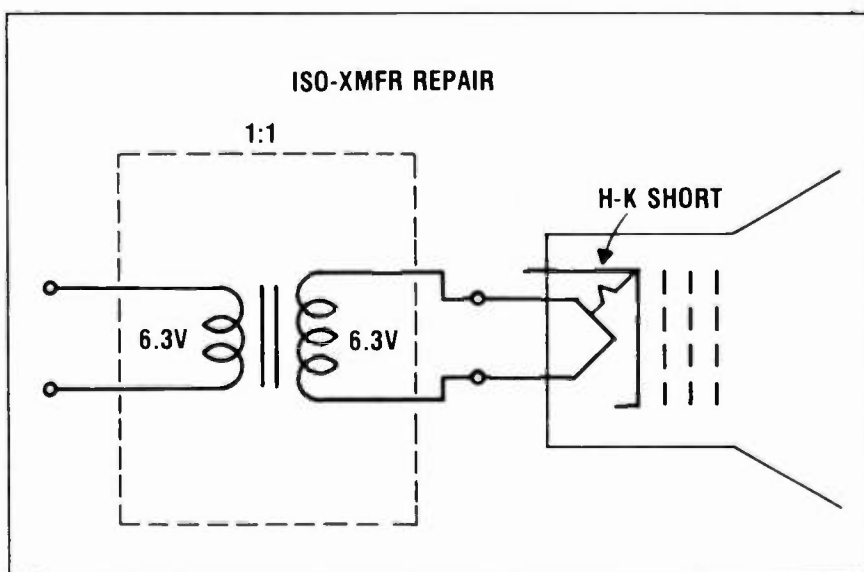

Fig. 3—Illustration of the use of an isolation transformer to 'cure' heater-to-cathode short in CRT.
- **Heater-To-Cathode Shorts**—The effect of this defect (Fig. 3) frequently can be eliminated by installation of an isolation transformer, which electrically isolates the heater, and therefore the cathode, from ground.